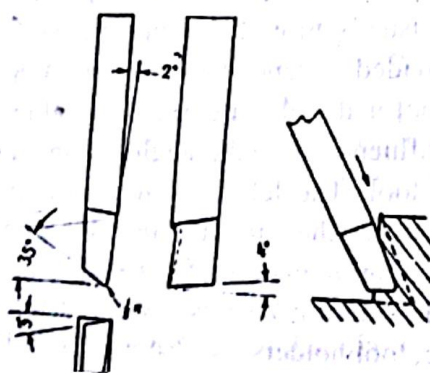

Figure 7.29 A left hand dovetail cutting tool for roughing
5. A left hand dovetail cutting tool (roughing) (Fig.7.29)